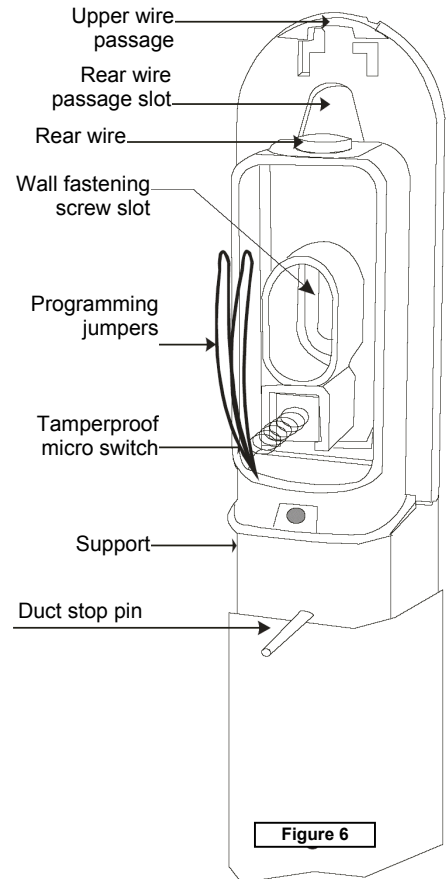

Figure 6
- Cut the column stop pins (on Rx and Tx) and carefully remove all burrin compensation (figure 6).